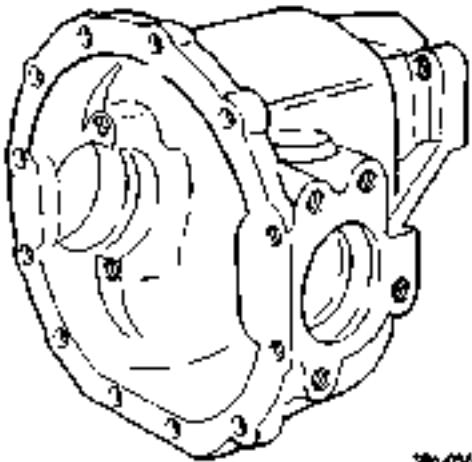

Figure 9-72: Housing
- 1. Inspect housing and all threaded holes for damage. Repair any damaged threads with thread repair inserts. Replace axle assembly if housing is damaged (Figure 9-72).